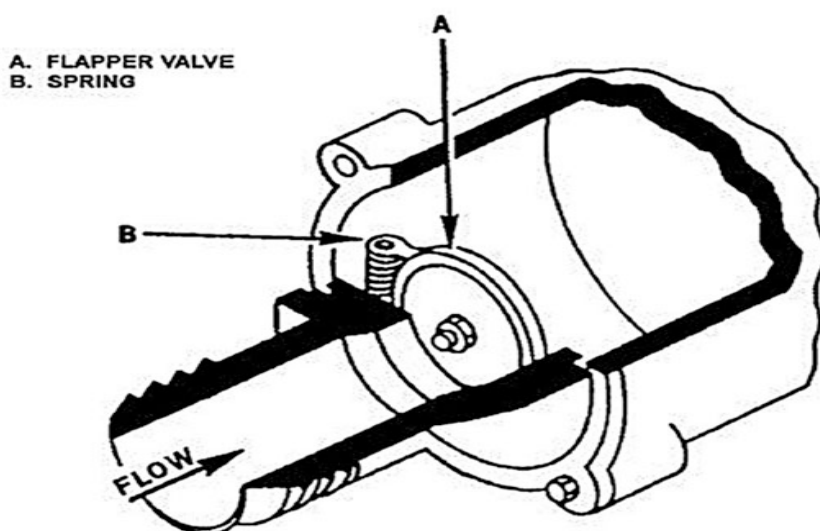

Figure 1-5. Check valve.
A flapper check valve is shown in figure 1-5. This type is used when the gravity flow through the valve is undesirable. Gravity flow or pump pressure opens the flapper valve. The flapper (A) is closed by a spring (B) which has slight pressure. Many flapper check valves have *top* or *hinge* stenciled on the valve body. On these valves, the hinge of the flapper is at the stenciled location. If the spring should break, the valve still performs the function of preventing reverse flow of fuel. The arrow (A) (flapper valve) indicates the direction of fuel flow. The valve body (B) (spring) provides a housing for the valve.